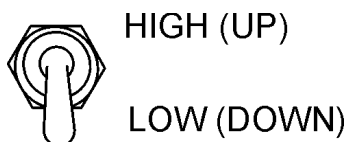

Figure 66. Engine Speed Switch
2. Set the engine speed switch (Figure 66) to the idle (low) position.